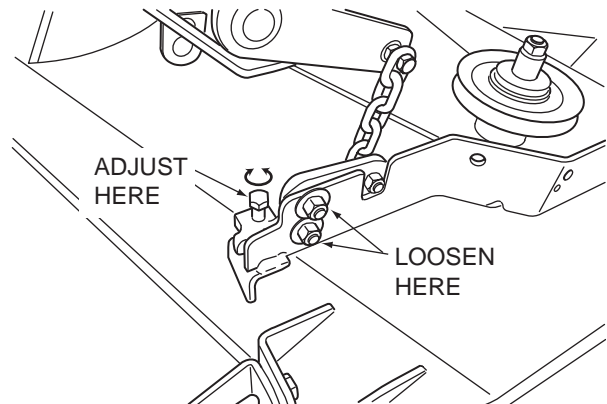

Figure 6-4. Cutter Deck Level Adjustment
1. On the front LH side of the cutter deck locate the cutter deck level adjusting bracket. See Figure 6-4.
3. Tighten or loosen the adjusting bolt as needed to achieve the 0.015 inch airgap. See Figure 6-4. Perform this operation at all three inspection windows.